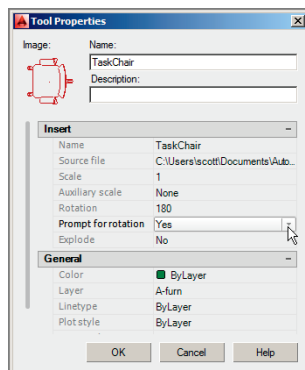

FIGURE 9.23 Adjusting tool properties to prompt for rotation
4. Right-click the TaskChair tool in the Furniture palette, and choose Properties from the context menu. Change Prompt For Rotation to Yes in the Tool Properties dialog box that appears (see Figure 9.23). Click OK.